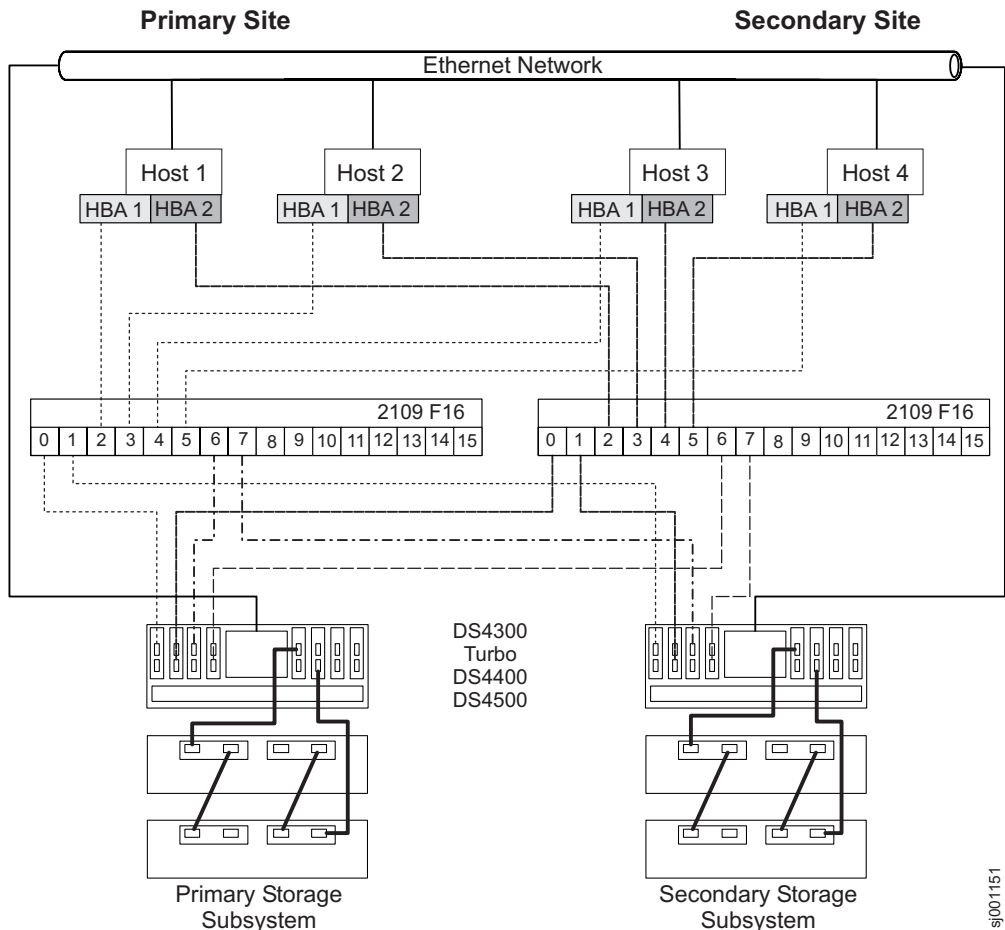

Figure 43. Intra-site configuration
Figure 43 on page 126 shows the Intra-site configuration after installation is complete.
Important: The Fibre Channel switches in Figure 43 contain 16 ports each, which leaves many unused ports per switch. If you are performing switch zoning using the Fibre Channel host port number, instead of the WWNN of the SAN fabric logged-in ports, do not include Fibre Channel switch ports with no Fibre Channel connections in the zone definition. If you include these unused ports in your zones, unauthorized access to the SAN might result.
Note: Figure 43 illustrates that there is no relationship between Zone A and Zone B in Switch 2 and Zone 1 and Zone 2 in Switch 1.
- Refer to Figure 43 on page 126 as you complete the steps in this procedure.